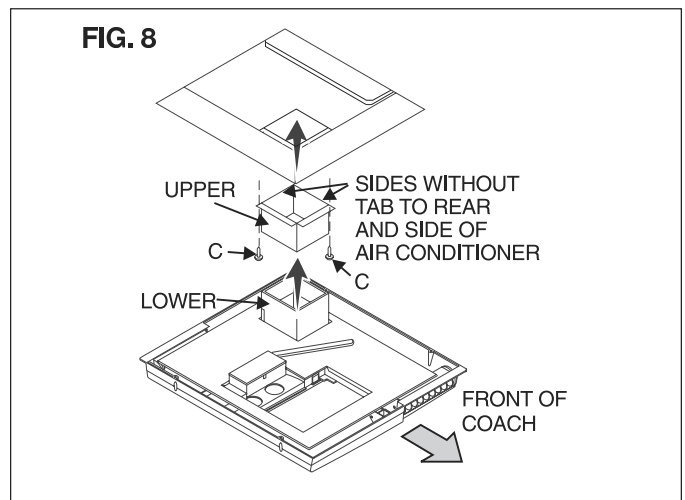

FIG. 8
**Note:** Edges without flanges install toward REAR and SIDE of opening. See FIG. 8.